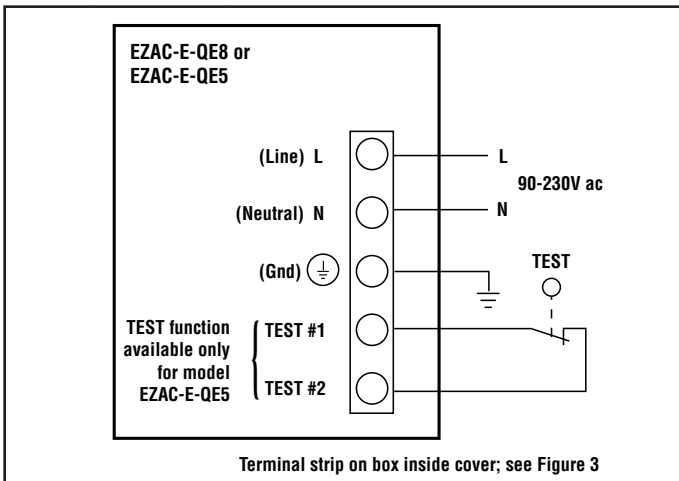

Figure 10. Hookup – models EZAC-E-QE8 and EZAC-E-QE5 (Hard-wired)
- Model **EZAC-E-QE8**: hard-wired power and ground inputs (see Figure 10)
- Model **EZAC-E-QE5**: hard-wired power, ground and test inputs (see Figure 10)